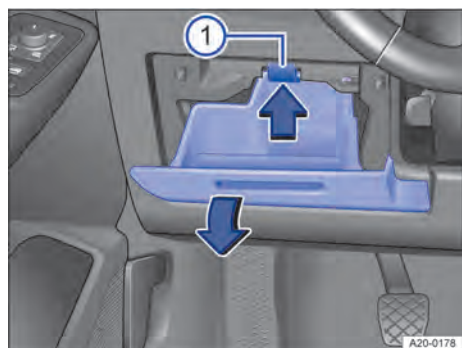

Fig. 180 Fuse box cover in the dash panel: left-hand drive vehicle, on the left-hand side of the steering wheel.
1. Open the storage compartment and empty it if necessary → Fig. 180.
2. Push the retaining lug upwards in the direction of the arrow and at the same time open the stowage compartment further and remove in the direction of the arrow until you can access the fuse carrier → Fig. 180 ①.